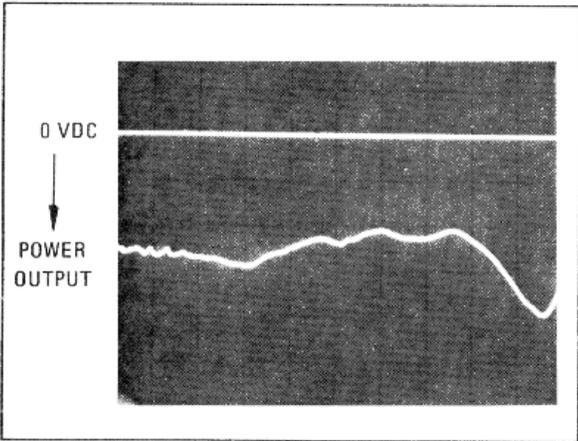
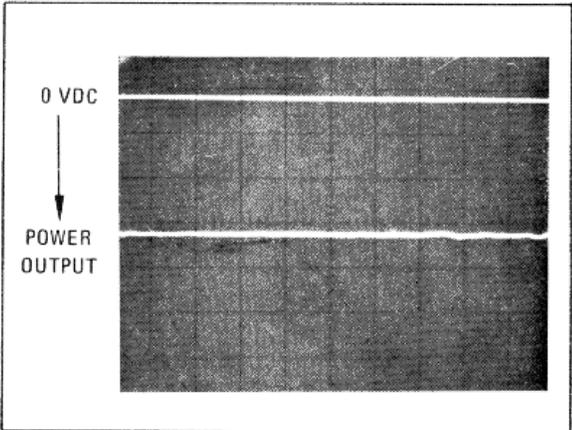

Figure 3-4. Unlevelled RF Power Output
Figure 3-5. Levelled RF Power Output
- 3. Check that RF Plug-in is sweeping correctly. This is indicated by a continuous signal line on oscilloscope similar to Figure 3-4
- 4. Adjust ALC GAIN 11 and POWER LEVEL 10 controls fully clockwise for maximum RF power and maximum external preamplifier gain. One of the conditions shown in Figure 3-4 through 3-6 should be displayed on oscilloscope. If trace is unlevelled, as shown in Figure 3-4, or just partially levelled and UNLEVELED light is on, turn POWER LEVEL 10 control counterclockwise to reduce power output until trace is level across band as shown in Figure 3-5. If external preamplifier gain is too high, oscillations may occur as shown in Figure 3-6. To remove oscillations, reduce external preamplifier gain by turning ALC GAIN 11 control counterclockwise.
5. One of the conditions shown in Figure 3-4 through 3-6 should be displayed on oscilloscope. If trace is unlevelled as shown in Figure 3-4, turn POWER LEVEL control 10 counterclockwise to reduce power output until trace is level across band as shown in Figure 3-5. If loop gain is too high, oscillations may occur as shown in Figure 3-6. To remove oscillations, reduce gain by turn ALC GAIN control 11 counterclockwise.